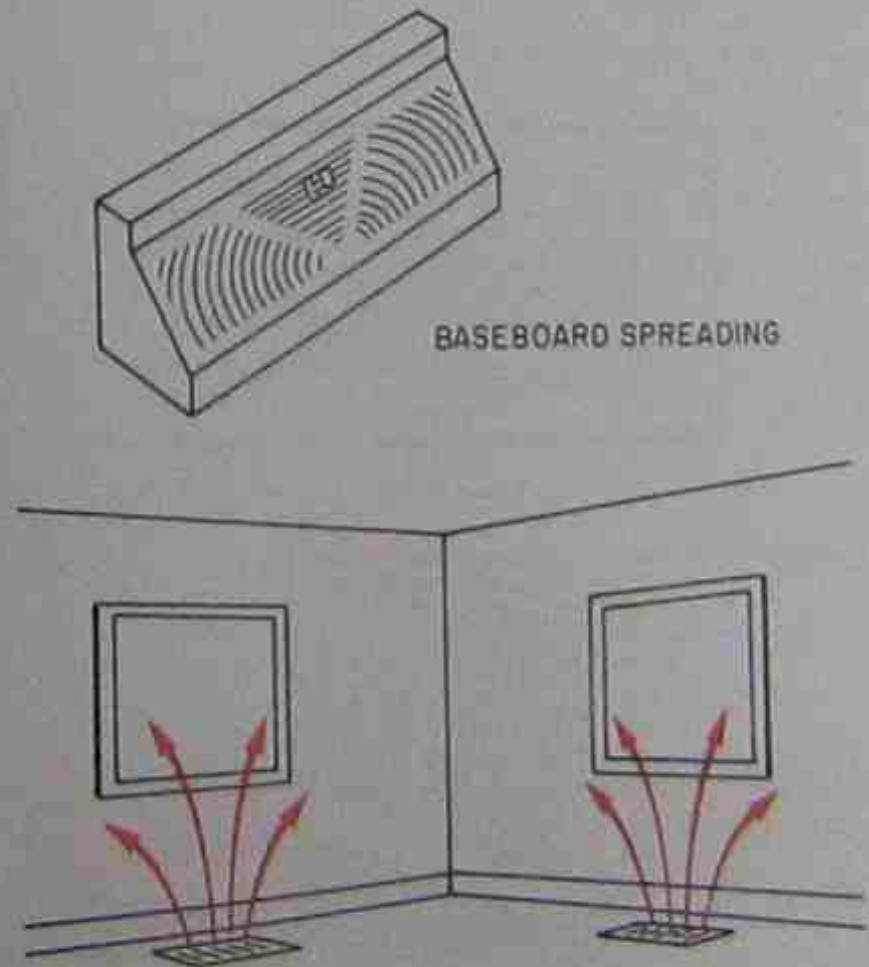

Figure 39-47. Diffuser.
1. When possible, air should be directed on the wall or load. For example, in winter air can be directed on the outside walls to cancel the load (cold wall) and keep the wall warmer. This will keep the wall from absorbing heat from the room air. In summer the same distribution will work; it will keep the wall cool and keep room air from absorbing heat from the wall. The diffuser spreads the air to the desired air pattern, Figure 39-47.